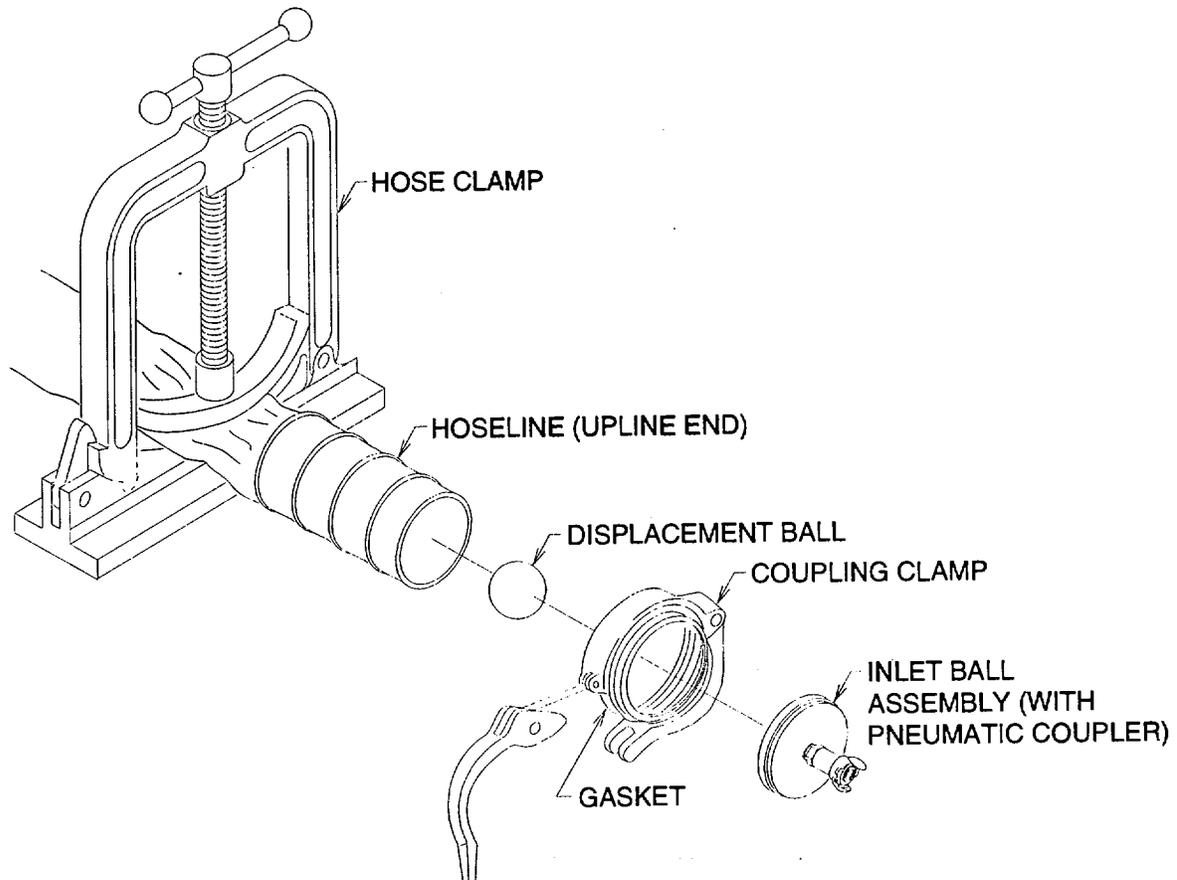

Figure 4-28. Evacuation Process View 1
- 3 Go to the beginning of the hoseline section and disconnect the air compressor hose from the ball inlet assembly. (See figure 4-28.)